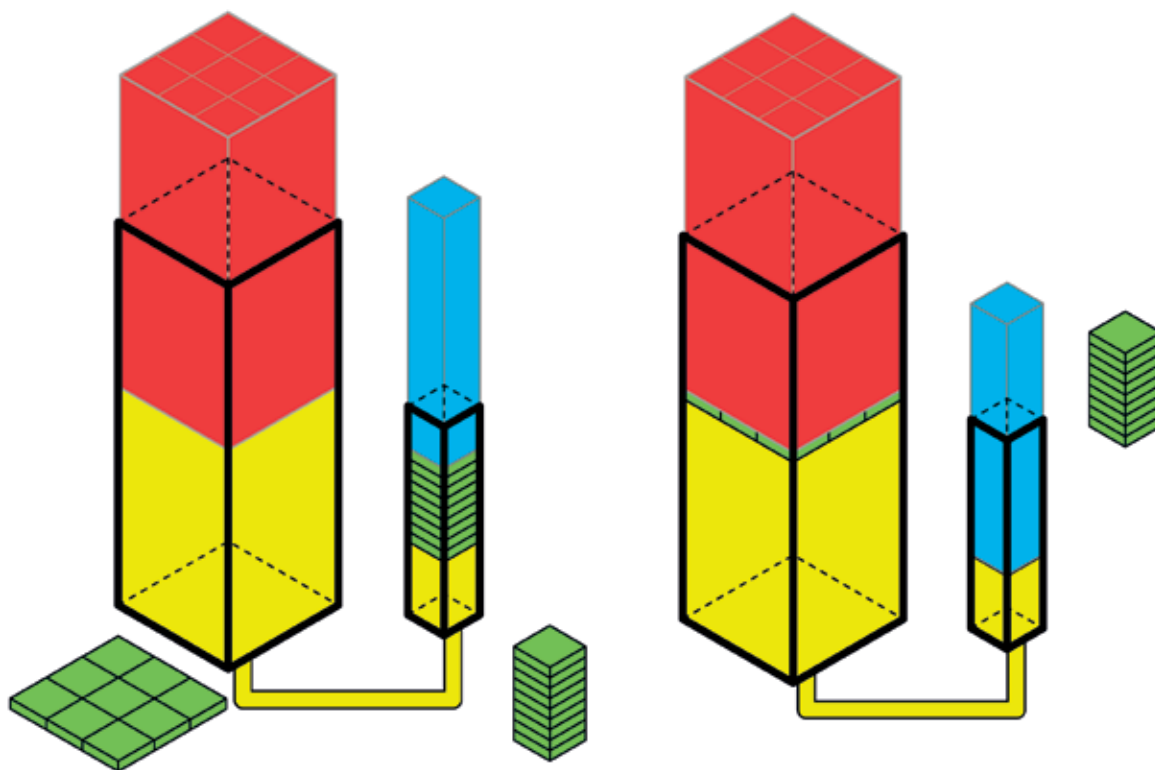

Figure 13
4. In the system shown in Figure 13, the surface area of the output cylinder top is nine times the surface area of the input cylinder top.